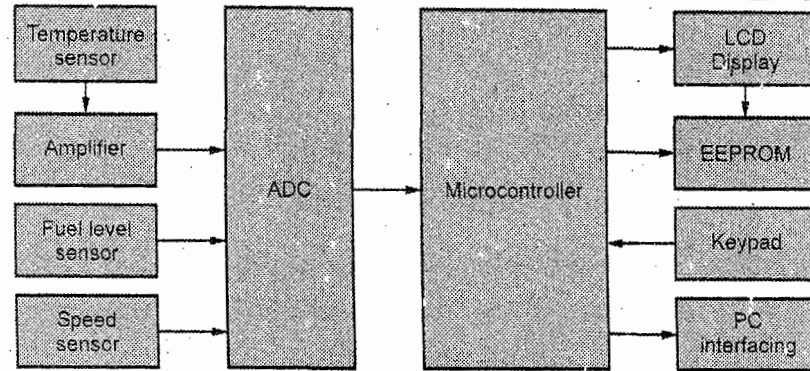
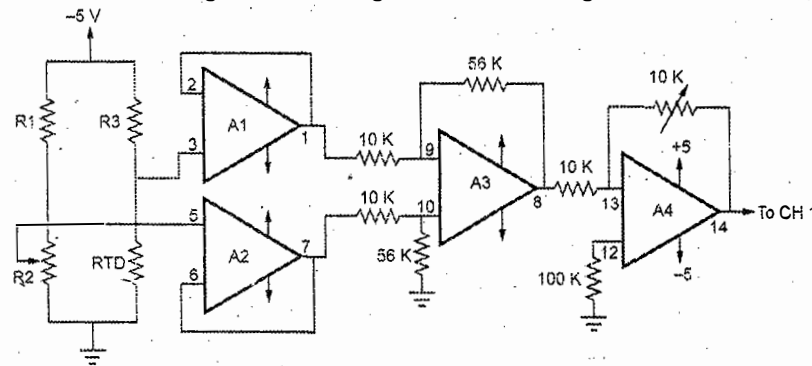

Fig. Q.14.2 The general block diagram
Fig. Q.14.3 Signal conditioning circuit
- The general block diagram of any security system without in built ADC is shown in Fig. Q.14.2 Some of the modern processor like PIC has the in-built ADC and require only signal conditioning circuit. The sample signal conditioning circuit is shown in Fig.Q.14.3 The signal conditioning circuit for any analog signal varies from signal to signal. For any low level signals an Instrumentation amplifier is best choice.